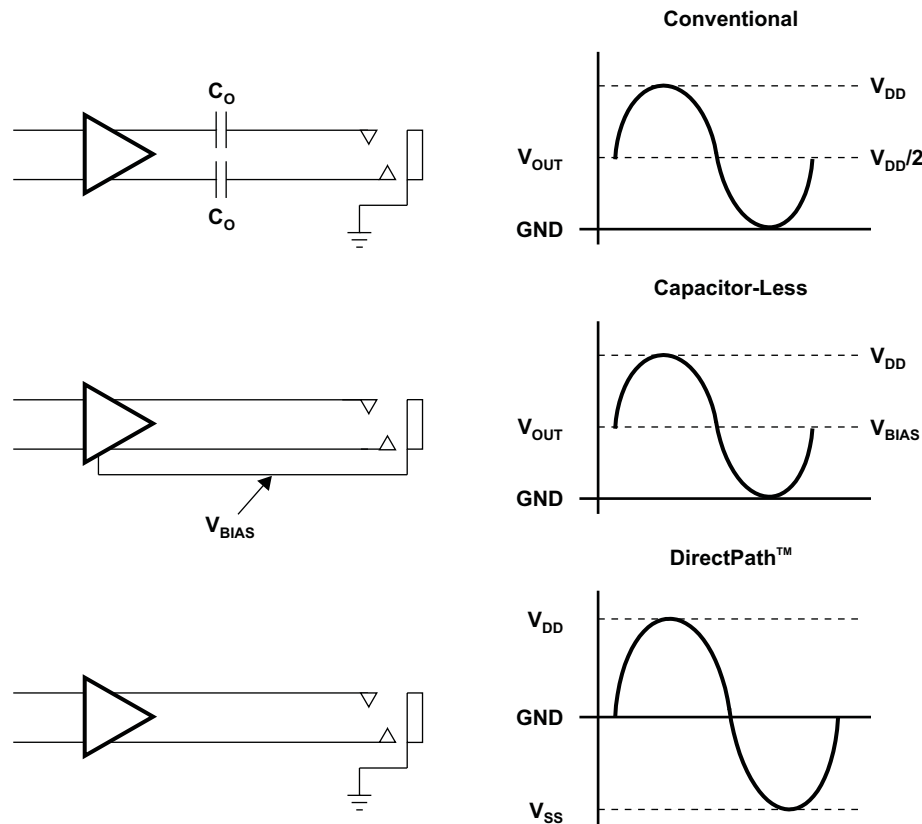

Figure 43. Amplifier Applications
The headphone amplifier has a fixed gain of  $-1.5$  V/V. It uses single-ended (SE) inputs. The DirectPath™ amplifier architecture operates from a single supply but makes use of an internal charge pump to provide a negative voltage rail. Combining the user-provided positive rail and the negative rail generated by the IC, the device operates in what is effectively a split supply mode. The output voltages are now centered at zero volts with the capability to swing to the positive rail or negative rail. The DirectPath™ amplifier requires no output dc blocking capacitors and does not place any voltage on the sleeve. The block diagram and waveform of Figure 43 illustrate the ground-referenced headphone architecture. This is the architecture of the TPA6045A4C.
Single-supply headphone amplifiers typically require dc-blocking capacitors. The capacitors are required because most headphone amplifiers have a dc bias on the outputs pin. If the dc bias is not removed, the output signal is severely clipped, and large amounts of dc current rush through the headphones, potentially damaging them. The left-side drawing in Figure 43 illustrates the conventional headphone amplifier connection to the headphone jack and output signal.
Two different headphone amplifier applications are available that allow for the removal of the output dc blocking capacitors. The capacitor-less amplifier architecture is implemented in the same manner as the conventional amplifier with the exception of the headphone jack shield pin. This amplifier provides a reference voltage, which is connected to the headphone jack shield pin. This is the voltage on which the audio output signals are centered. This voltage reference is half of the amplifier power supply to allow symmetrical swing of the output voltages. Do not connect the shield to any GND reference, or large currents will result. The scenario can happen if, for example, an accessory other than a floating GND headphone is plugged into the headphone connector. See the second block diagram and waveform in Figure 43.